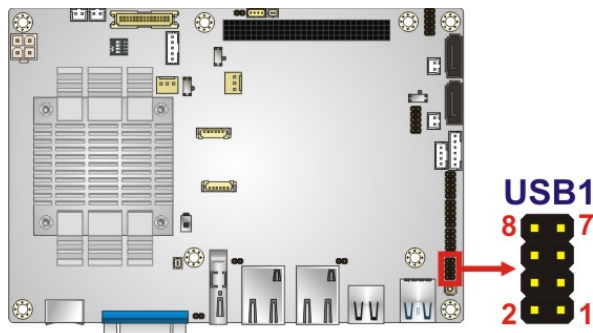

Figure 3-31: USB 2.0 Connector Location
- CN Location:** See **Figure 3-31**